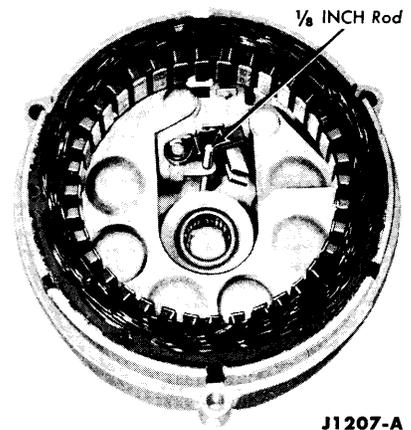

FIG. 50—Brushes Retracted for Assembly
13. Retract the brushes and insert a short length of 1/8-inch rod of stiff wire through the hole in the rear end housing to hold the brushes in the retracted position (Fig. 50).